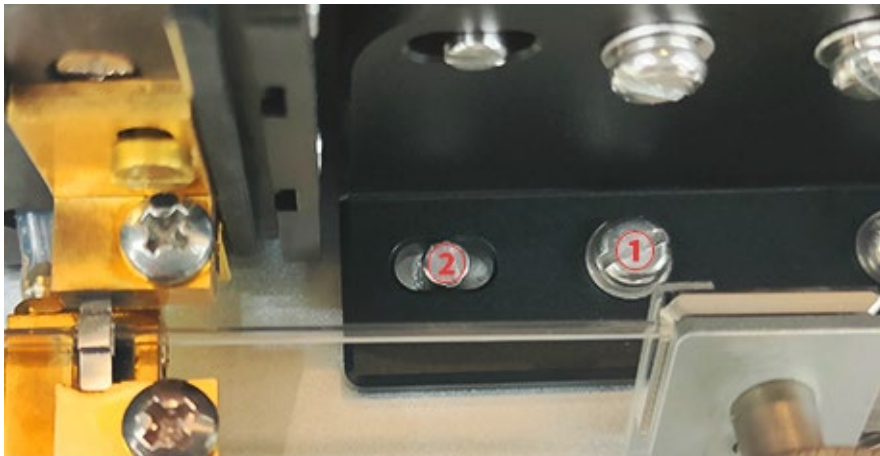
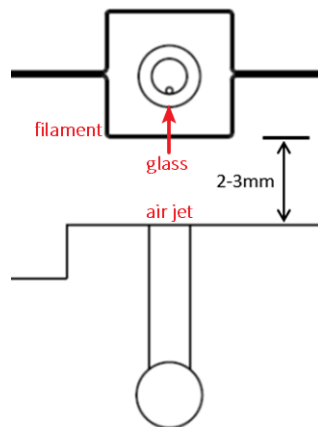

Figure 6-11
Figure 6-12
12) If the glass is not horizontally centered, loosen the screw ① and turn the screw ② to finely adjust horizontally until the glass is centered in the filament, as shown in Figure 6-11. Finally, the relative positions of the heating filament, the glass, and the air jet opening are shown in Figure 6-12.